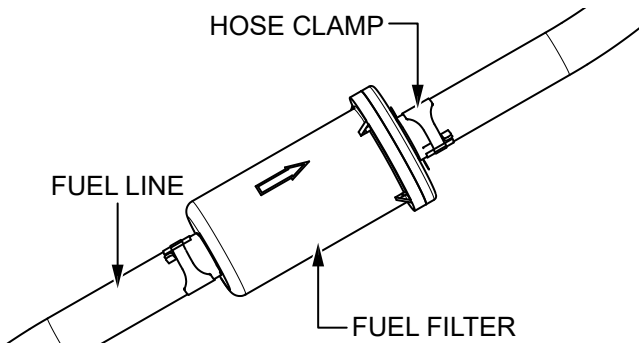

Figure 35. Fuel Filter Replacement
1. Remove the **hose clamps** (Figure 35) securing the **fuel lines** to the **fuel filter**.
2. Twist and pull the fuel lines (Figure 35) off of the fuel filter.